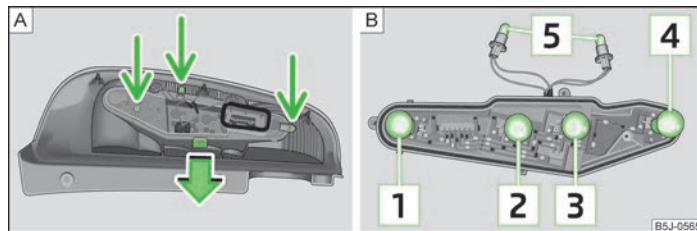

Fig. 152 Remove the middle part of the light/bulb arrangement
Bulb arrangement in the tail light assembly » Fig. 152
- To access the bulbs, unscrew the middle of the light and press off the latching mechanism » Fig. 152 - **A**.
- Remove the faulty bulb **1**, **2**, **3** or **4** » Fig. 152 from the holder and insert a new bulb.